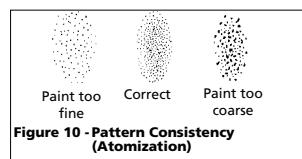

Figure 10 - Pattern Consistency (Atomization)
4. Trigger a short burst while turning fluid control knob counterclockwise. Observe the spray pattern on the target and adjust the fluid control knob until the desired pattern (atomization) is obtained (See Figure 10).